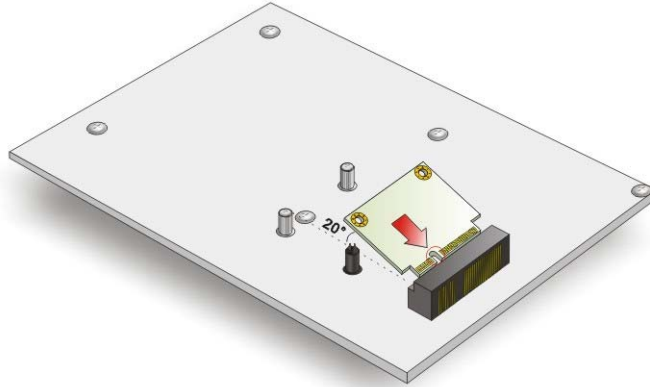

Figure 4-20: Insert the Half-size PCIe Mini Card into the Socket at an Angle
Step 3: Insert into the socket at an angle. Line up the notch on the card with the notch on the connector. Slide the PCIe Mini card into the socket at an angle of about 20° (Figure 4-20).